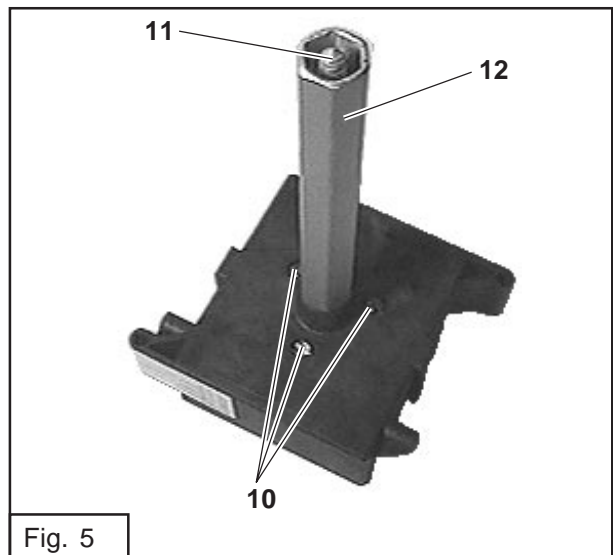

Fig. 5
- Loosen the 3 fastening screws (10) at the bearing housing. (Fig. 5)
- Press the spindle (11) slightly. Withdraw the spindle together with bearing and washers. (Fig. 5)
- Unscrew the outer tube (12). (Fig. 5)